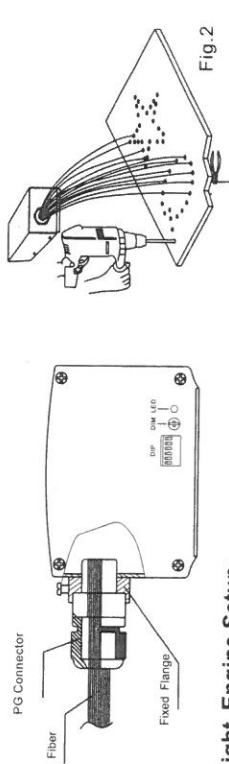

Fig. 2
3. Installation of the fiber optic (Fig.2)